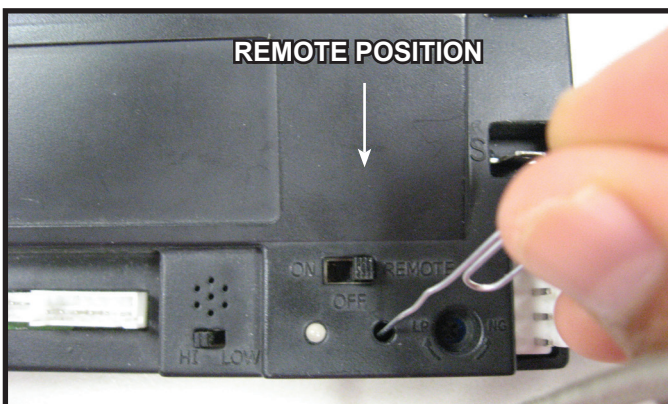

Figure 5. Programming RC300 - (Control Module is located under unit.)
- Verify the ON/OFF/REMOTE switch is in the REMOTE position. Green LED light will blink three times and control module will beep once 5 seconds later when ready. See Figure 5.
- Using a small item (such as a paper clip) press and release the LEARN button located near the ON/OFF/REMOTE switch. See Figure 5.